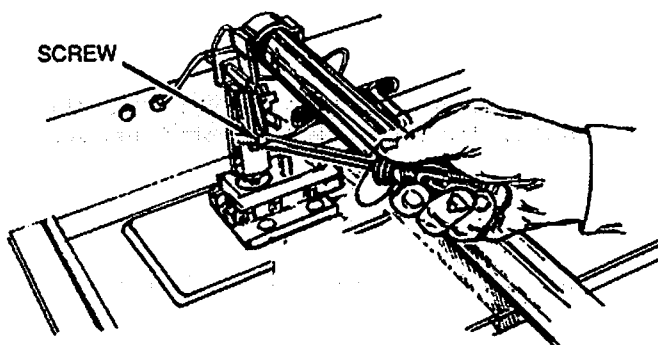

FIGURE 21
2. If oven flame needs to be adjusted, loosen screw and adjust the air shutter (fig. 21) until the proper flame appears. Tighten screw.